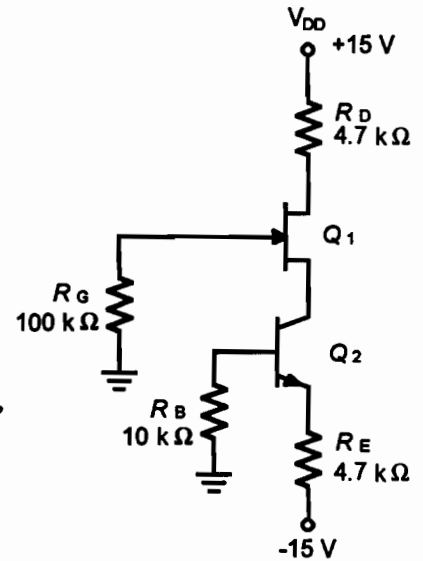

Figure 30.1
1. Construct the circuit in Figure 30.1.
3. For the circuit of Figure 30.1, calculate the value of  $I_E$  and record it in Table 30.1.